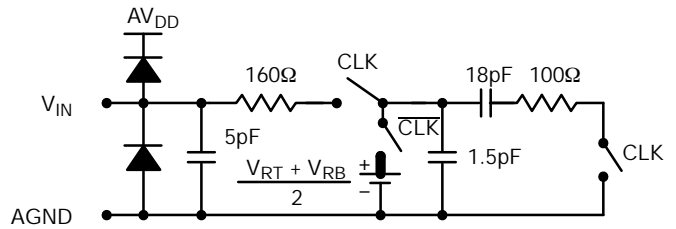

Figure 8. Equivalent Input Circuit
- 5 See VIN equivalent circuit (Figure 8.). Switched capacitor analog input requires driver with low output resistance.
This part has a switched capacitor type input circuit. This means that the input impedance changes with the phase of the input clock. VIN is sampled at the high to low clock transition. Figure 8. shows an equivalent input circuit.